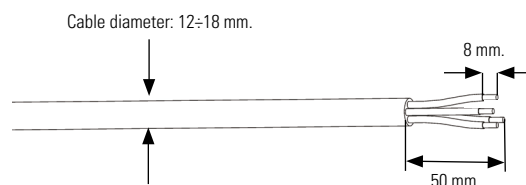

Fig. 40. Stripping the AC cable.
3. Remove the insulation sleeve from the AC bundle by about 50 mm, and remove the insulation from the end of the L/N cables by about 8 mm, as shown in Fig. 40.